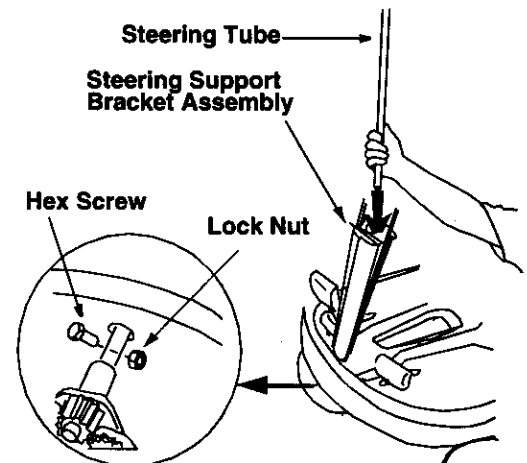

Figure 5
- Secure with hex screw and hex inserted lock nut from the hardware pack. See Figure 5.